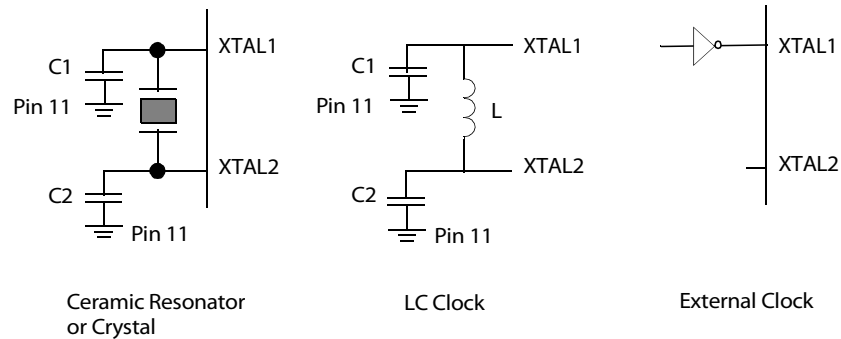

Figure 19. Oscillator Configuration
The Z86E61/Z86E63 MCU's on-chip oscillator features a high gain, parallel resonant amplifier for connection to a crystal, LC, ceramic resonator, or any suitable external clock source (XTAL1 = Input, XTAL2 = Output). The crystal should be AT cut, 1MHz to 20MHz max; series resistance (RS) is less than or equal to 100 Ohms. The crystal should be connected across XTAL1 and XTAL2 using the recommended capacitors ($10\text{pF} < \text{CL} < 100\text{pF}$) from each pin to ground; see Figure 19.